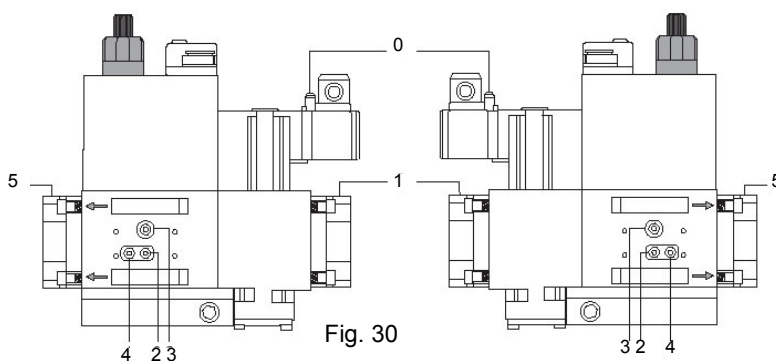

Fig. 30
- 2 Remove screws 1 ÷ 4 using the Allen key n. 3 and remove filter cover 5 in Fig. 30.